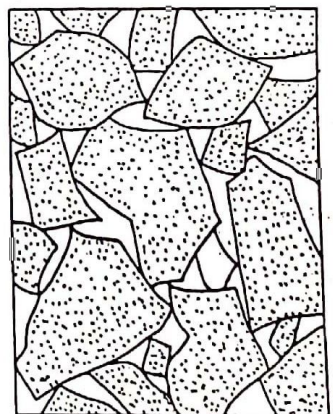

Fig. 19.17. Matrix of aggregates in asphaltic concrete.
1. It imparts stability to the mix, by the mechanical interlock between the particles and the frictional resistance developed at the interface between the particles (Fig. 19.17). The combination of interlocking and frictional resistance is termed as internal friction.